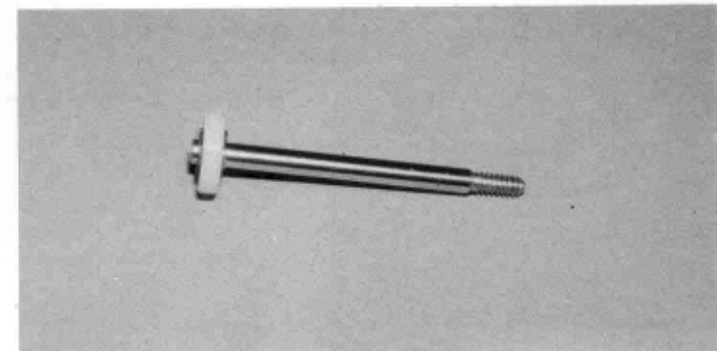

Fig. 54
□ **Fig. 54**— Slip the piston on and install the other "E"-clip. Make sure both "E"-clips are fully seated in the grooves.